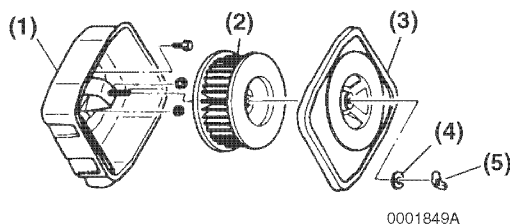

Figure 5-7
1. Remove the wing nut (**Figure 5-7, (5)**) and gasket (**Figure 5-7, (4)**).
2. Remove the air cleaner cover (**Figure 5-7, (3)**).
3. Remove the air cleaner element (**Figure 5-7, (2)**).
5. Clean the inside and outside of the air cleaner housing and cover (**Figure 5-7, (1, 3)**).
6. Reinstall (or install the new) air cleaner element (**Figure 5-7, (2)**) into the air cleaner housing.